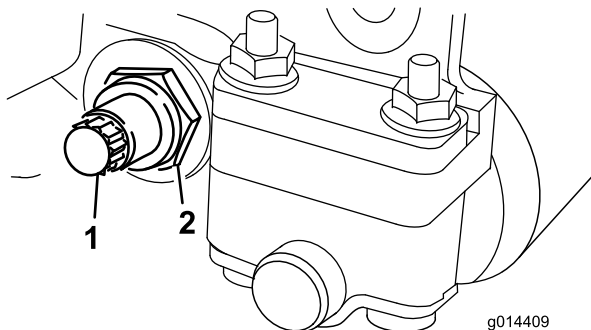
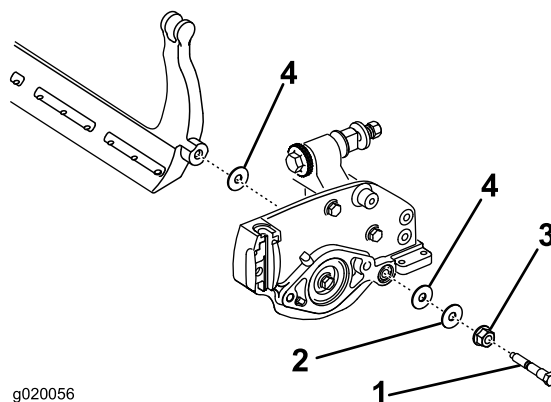

Figure 20
Figure 21
3. On each side of the machine, loosen the locknut securing the bedbar bolt (Figure 20).
4. Remove each bedbar bolt allowing the bedbar to be pulled downward and removed from the machine bolt (Figure 20). Account for the two nylon and one stamped steel washers on each end of the bedbar (Figure 21).
2. Secure the bedbar to each side plate with 2 bedbar bolts, locknuts (nuts on bolts), and 6 washers. Position a nylon washer on each side of the side plate boss. Place a steel washer outside of the outer nylon washer (Figure 21).
4. Tighten the locknuts equally on each side until you cannot rotate the steel washers by hand (Figure 21).